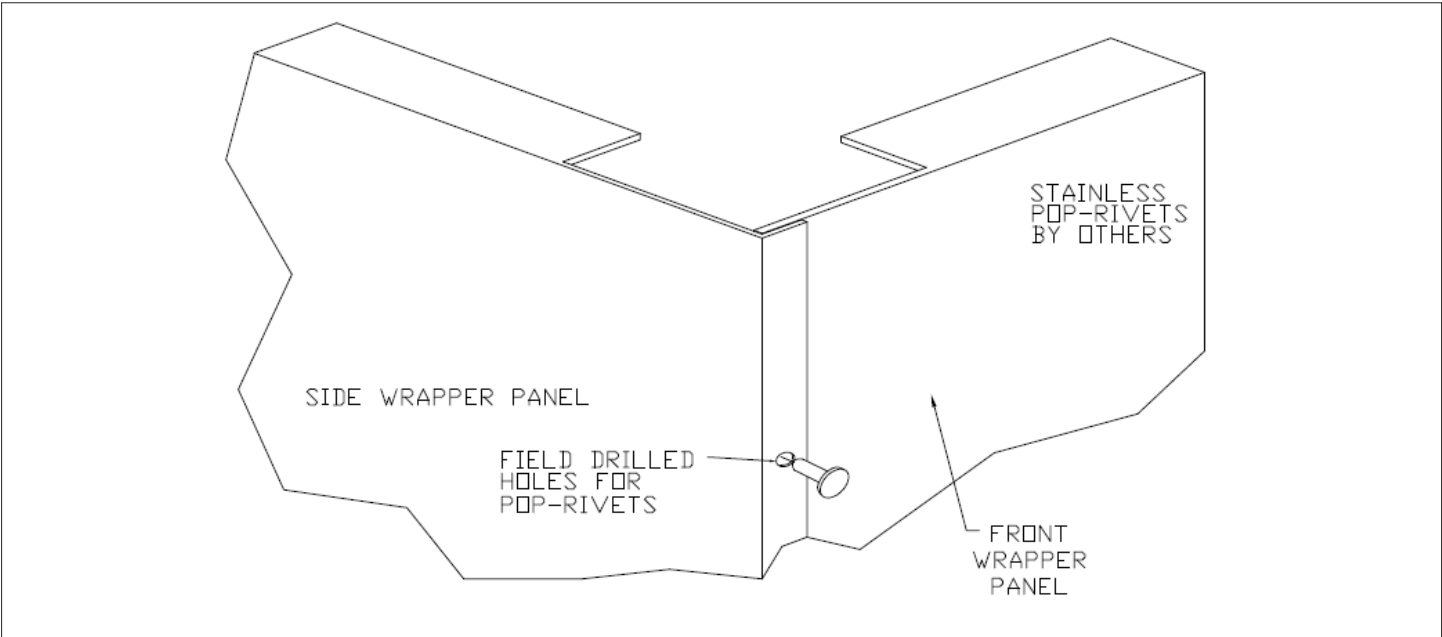

FIGURE 14D
4. Locate front wrapper panel. Position its lower 1/2" flange under front channel on hood and slide panel into position, so that the end of front panel is behind the 90 degree bend of the side panel. **See Figure 14D: Front Corner Assembly.** Once in place, press fit the lower flange of the front panel into the front channel in order to have wrapper face flush with the front of the hood. Screw or pop-rivet bottom of front panel to the front channel.
5. Drill appropriate holes and rivet front to side wrapper panel. **See Figure 14D: Front Corner Assembly.**